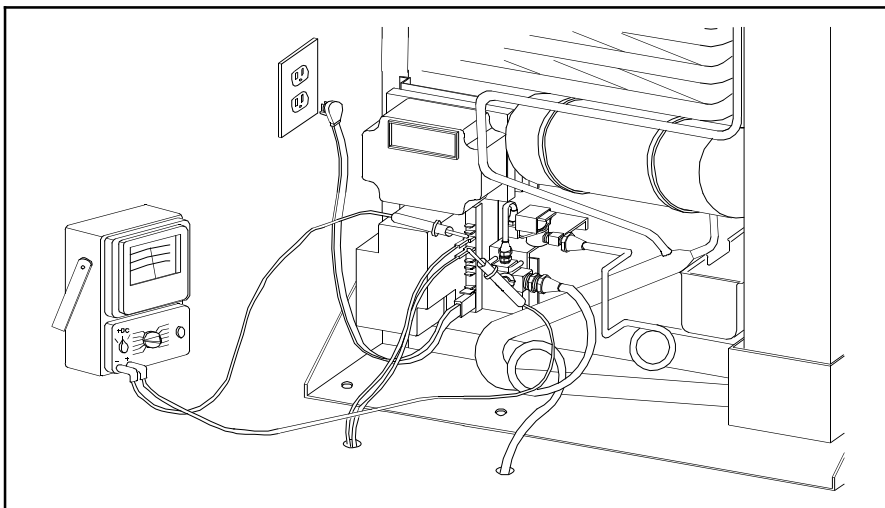

Figure 11.51 12 Volt DC Supply Check
1. With a volt-ohm-meter set to measure 12 volts DC check the input supply to the Power Supply terminals J3(-) and J4(+) as shown in Figure 11.51. If you do not have 12 volts DC repair the source.